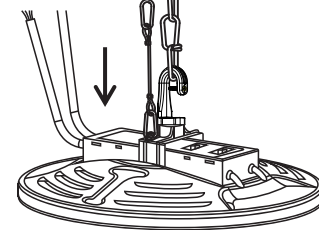

FIG 1.4
3. One end of the safety rope is buckled into the lamp structure, and the other end is installed on the corresponding ceiling structure (FIG 1.4);